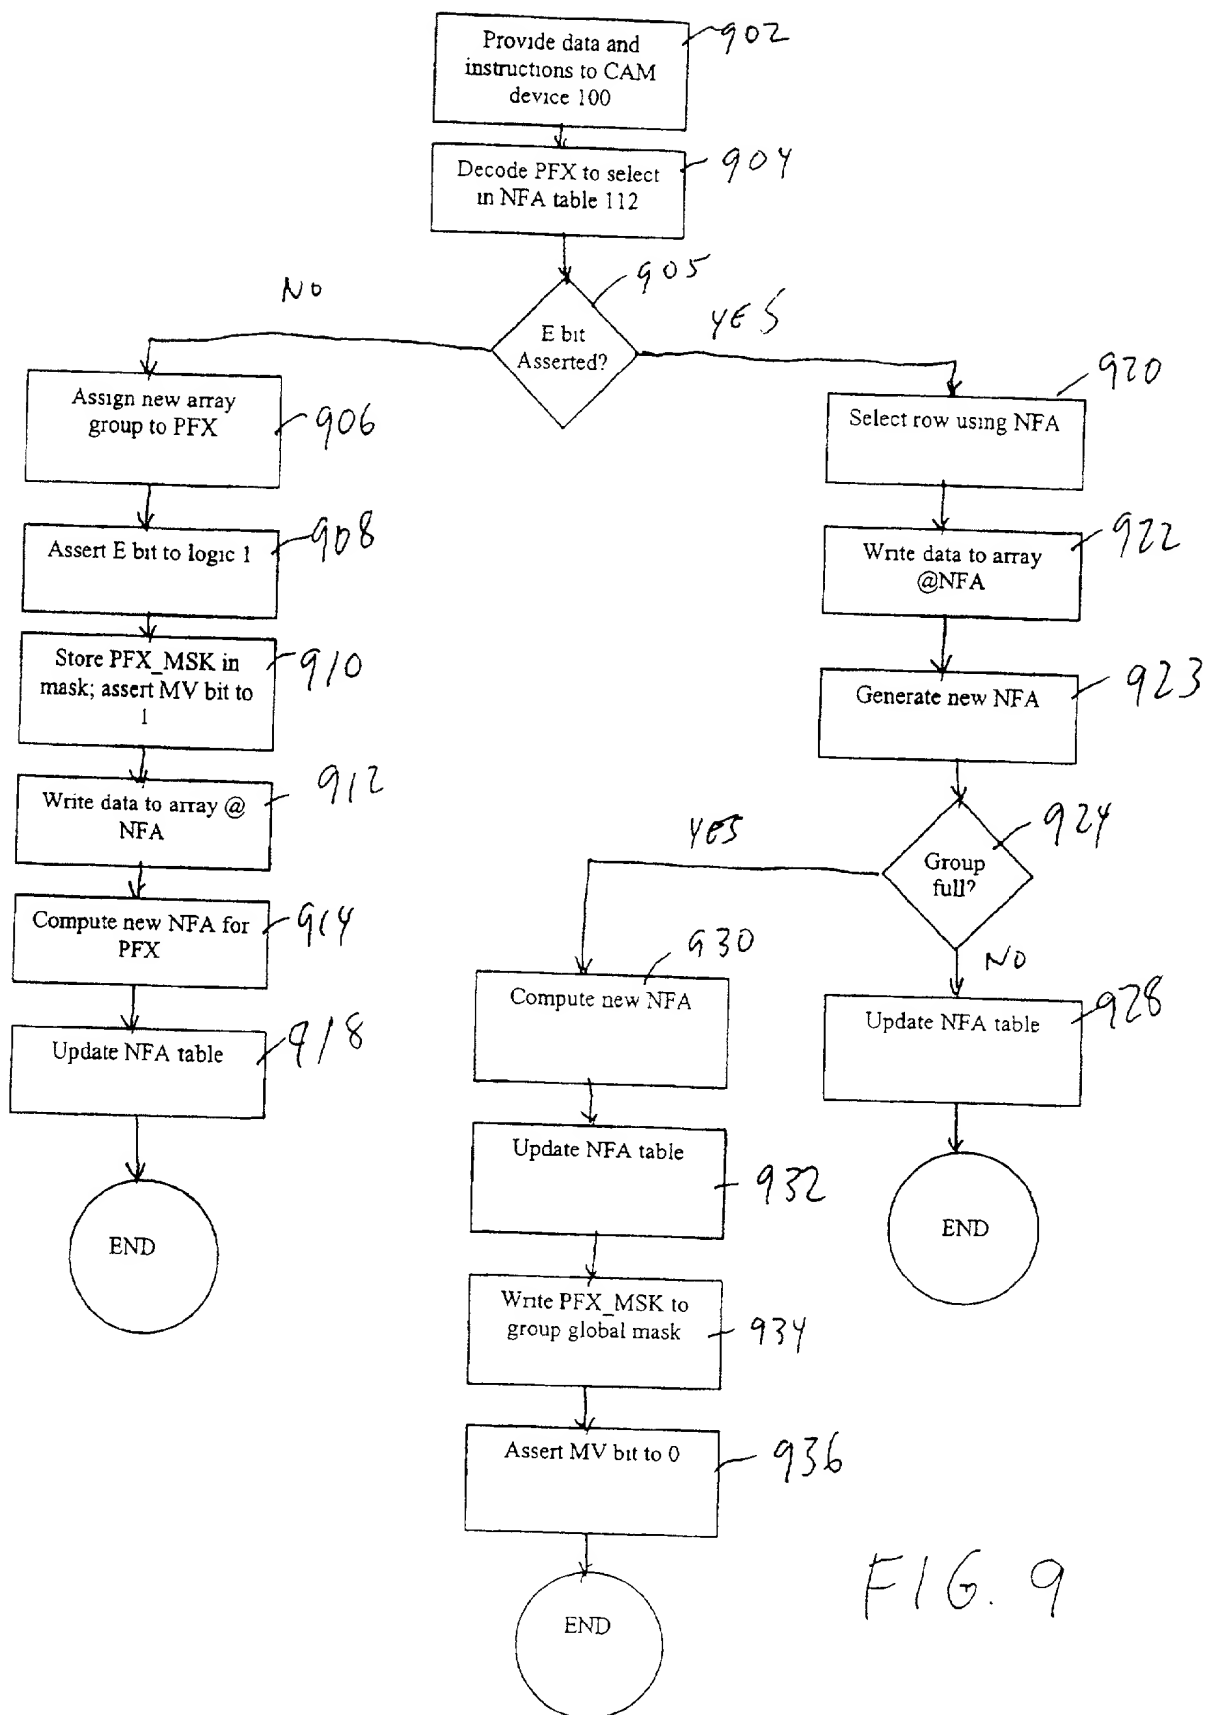

FIG. 9
FIG. 9 is a flowchart illustrating a process for updating an NFA table. The process begins with providing data and instructions to a CAM device 100 (902). This is followed by decoding the PFX to select in the NFA table 112 (904). A decision is made on whether the E bit is asserted (905). If the E bit is not asserted (No), the process proceeds to assign a new array group to the PFX (906), assert the E bit to logic 1 (908), store the PFX\_MSK in the mask and assert the MV bit to 1 (910), write data to the array @ NFA (912), compute a new NFA for the PFX (914), and update the NFA table (918), leading to the END state. If the E bit is asserted (Yes), the process proceeds to select a row using the NFA (920), write data to the array @ NFA (922), and generate a new NFA (923). A decision is made on whether the group is full (924). If the group is full (Yes), the process proceeds to compute a new NFA (930), update the NFA table (932), write the PFX\_MSK to the group global mask (934), assert the MV bit to 0 (936), and leads to the END state. If the group is not full (No), the process proceeds to update the NFA table (928) and leads to the END state.